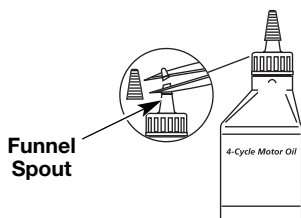

Fig. 10
Your unit is supplied with one 3.04 fluid oz. (90 ml.) bottle of SAE 30 SF, SG, SH oil (Fig. 10).
1. Unscrew the top of the bottle of oil and remove the paper seal covering the opening. Replace the top. Next, cut the tip off the funnel spout (Fig. 10).